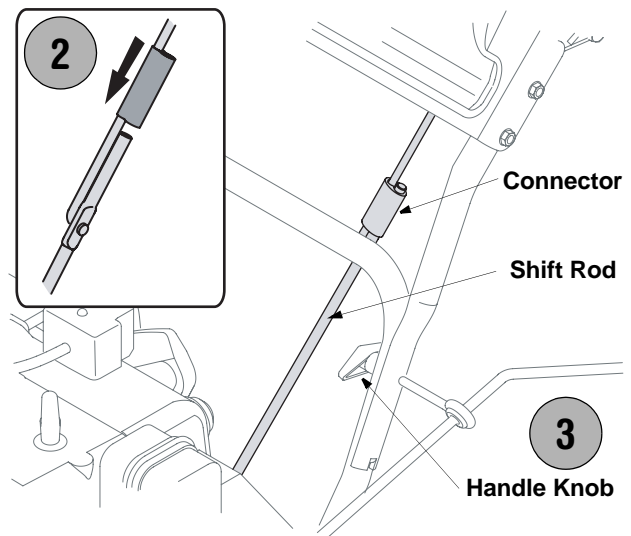

Figure 2
2. Slide the shift rod connector down over the end of the lower shift rod. Tap the connector until it **locks** over the lower shift rod. See Figure 2.